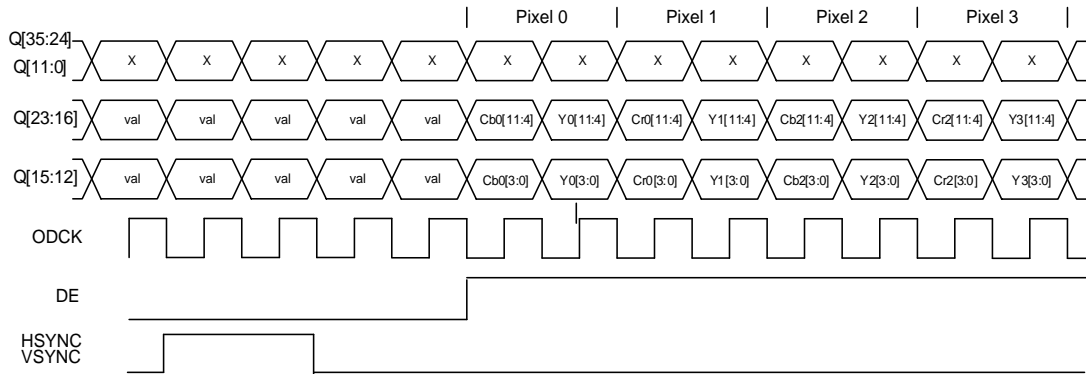

Figure 8.8. YC Mux 4:2:2 Timing Diagram
The video data is multiplexed onto fewer pins than the mapping in Table 8.8, but complete luminance (Y) and chrominance (Cb and Cr) data is still provided for each pixel because the output pixel clock runs at twice the pixel rate. Figure 8.8 on the next page shows the 24-bit mode. The 16- and 20-bit mappings use fewer output pins for the pixel data. Note the separate syncs. Figure 8.8 also shows OCLKDIV = 0 and OCKINV = 1.